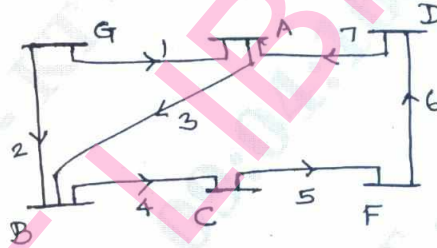

Fig.Q1(c)
- c. For the network shown in Fig.Q1(c), obtain the matrices A, B and C. Assume G as reference bus and AB, DF as links.